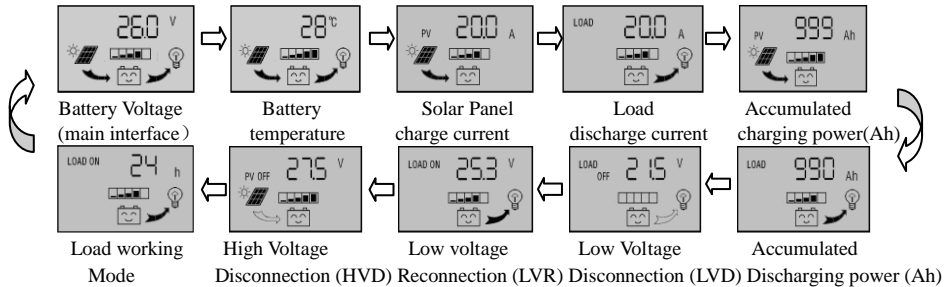

Figure 1
-  : Interface loop switch button, use the button to cycle between pages in each switch cycle sequence shown in (figure 1)